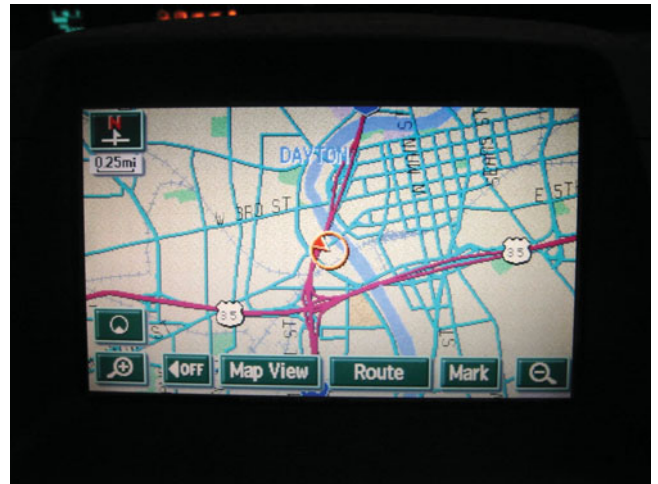

FIGURE 22-44 A typical GPS display screen showing the location of the vehicle.
1. Screen display ● **SEE FIGURE 22-44.**